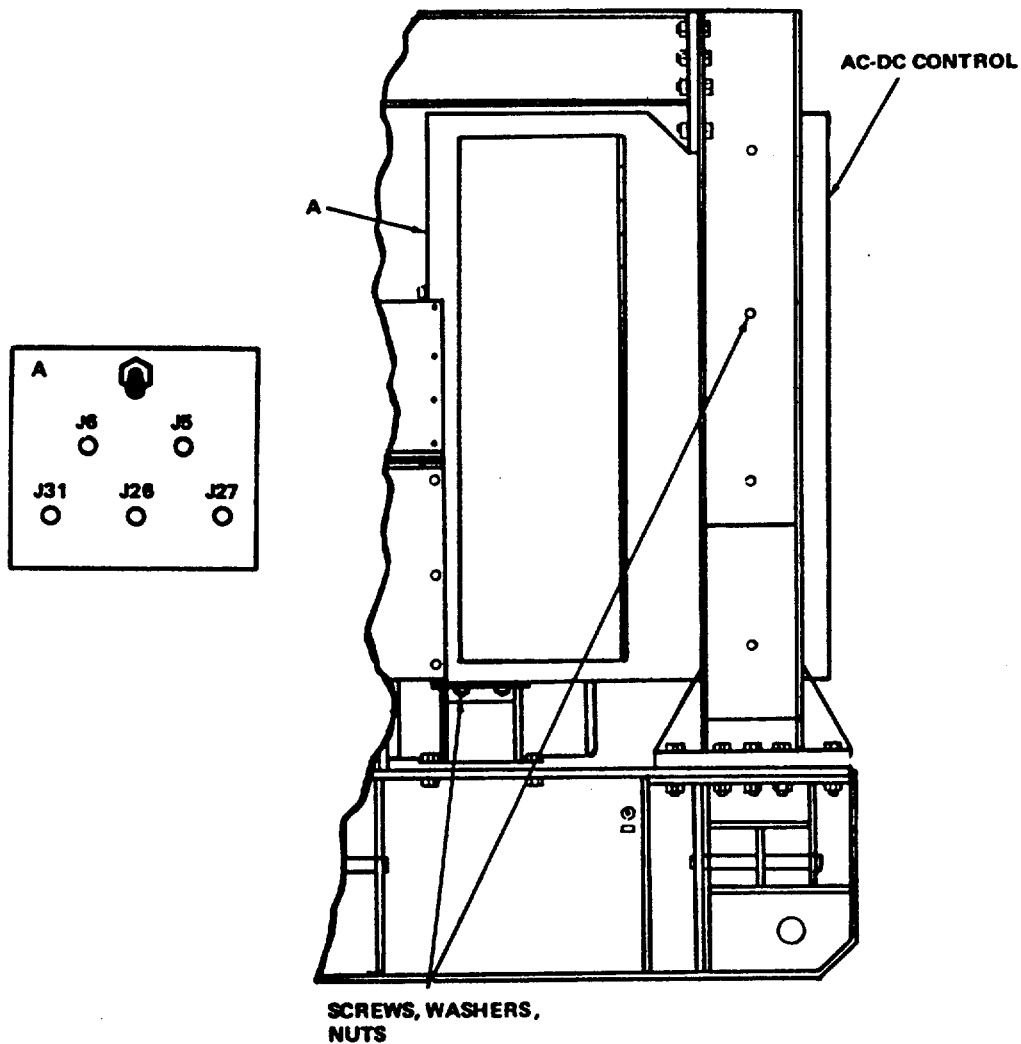

Figure 2-2. AC-DC Control Box Assembly, Removal and Installation
- (1) Using a suitable hoist, line up unit on brackets (two on each side) and slide unit in.
- (2) Attach screws, nuts, and washers from control cubicle to each of the four angle brackets.
- (3) Connect electrical connectors to J1 through J6 at rear of control cubicle.
- (4) If generator set had a housing, replace left and right access doors in accordance with Chapter 15.
**2-14. AC-DC CONTROL BOX ASSEMBLY.** The AC-DC control box assembly, figure 2-2, is mounted on the left side of the control cubicle
- (1) If generator set has a housing, remove left rear panel in accordance with Chapter 15.
- (2) Disconnect electrical connectors J5, J6, J26, J27, and J31 on enclosure assembly. Tag and disconnect terminals of the shielded cable assembly, loosen adapter then remove shielded cable from AC-DC control box.
- (3) Remove screws, washers, and nuts attaching AC-DC control box assembly to the support frame upright.
- (4) Remove screws, washers, and nuts attaching AC-DC control box assembly base to the brackets on skid base.
- (5) Remove control cubicle per paragraph 2-13.a.
- (6) Using a hoist, remove AC-DC control box assembly.
- (1) Secure all generator set wiring and cables in vicinity of AC-DC control box assembly location.
- (2) Using a suitable hoist, locate unit on skid and attach to skid with screws, washers, and nuts (see figure 2-2)
- (3) Similarly, attach screws, washers, and nuts from unit to frame support upright.
- (4) Install control cubicle per paragraph 2-13 b.
- (5) Connect electrical connectors to J5, J6, J26, J27, and J31 on enclosure assembly. Connect terminals of shielded cable assembly, remove tags, and tighten adapter.
- (6) If generator set has a housing, replace left rear panel in accordance with Chapter 15.